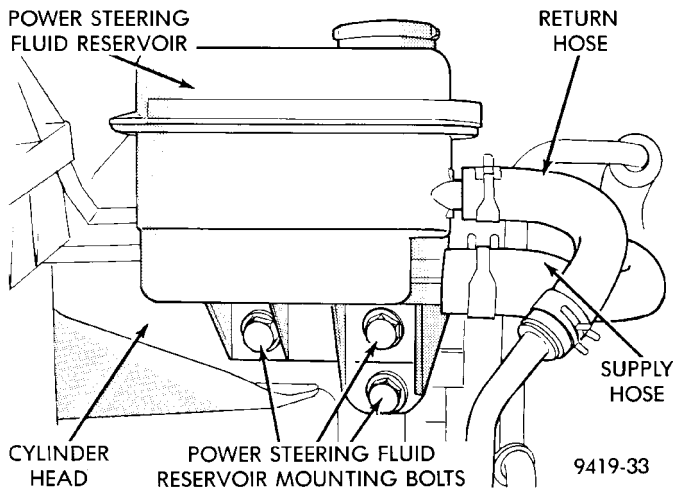
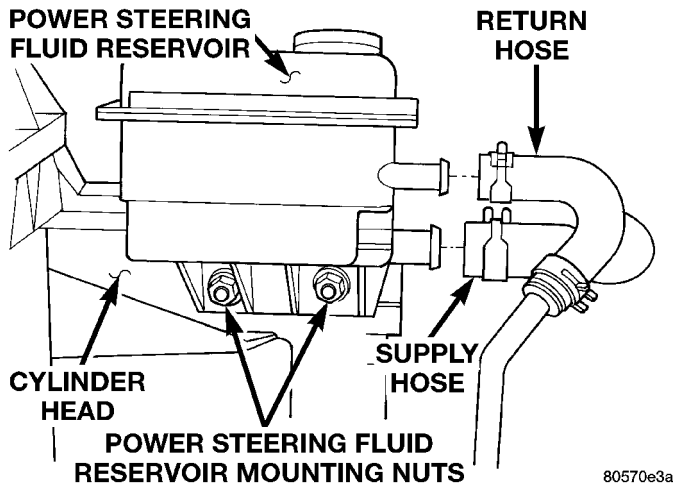

Fig. 34 Power Steering Fluid Reservoir Hoses And Mounting
Fig. 35 Power Steering Fluid Reservoir Mounting
(7) If vehicle is equipped with the single overhead cam engine, remove the 3 bolts (Fig. 34) attaching the power steering fluid reservoir to the cylinder head.
(8) **If vehicle is equipped with the dual overhead cam engine**, remove the 2 nuts (Fig. 35) attaching the power steering fluid reservoir to the cylinder head.
(1) Install power steering fluid reservoir on cylinder head. Install and securely tighten the power steering fluid reservoir to cylinder head attaching bolts (Fig. 34) or. (Fig. 35)